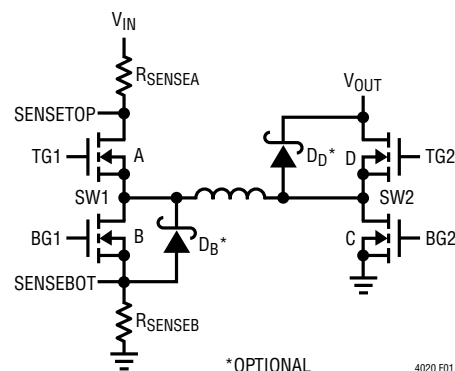

Figure 1. Converter Switch Diagram
As shown in Figure 1, when V_{IN} is higher than V_{OUT} during step-down (buck) operation, switches A (driven by pin TG1) and B (driven by pin BG1) perform the PWM required for accommodating power conversion. Ideally, switch D (driven by pin TG2) would conduct continuously and switch C (driven by pin BG2) would stay off, making PWM switching action much like that in a synchronous buck topology. Switch D uses a bootstrapped driver, however, so switch C conducts for a minimum on time of 150ns each cycle to refresh the driver and switch D is disabled to accommodate this refresh time. A 75ns non-overlap period, separates the conduction of the two switches, preventing shoot-through currents.
Figure 1 shows a simplified diagram of the four power switches and their connections to the IC, inductor, V_{IN} , V_{OUT} , ground, and current sense elements.
The LTC4020 performs inductor current sensing via two resistors connected in series with the V_{IN} side switches (see Figure 1). The high side sense resistor (R_{SENSEA}) is connected between V_{IN} and the drain of the top side switch FET (A). Both nodes on the sense resistor must be Kelvin connected to the IC via the pins SENSVIN and SENSTOP. Likewise, the low side sense resistor (R_{SENSEB}) is connected between the source of the bottom side switch FET (B) and